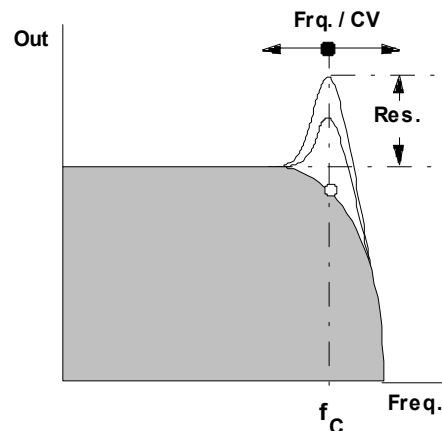

Fig. 1: Frequency response of the A-103
With this control you adjust the **Cut-Off Frequency** f_c , above which the filter attenuates all frequencies. At 10, the filter is fully open. The more you turn down this control, the more the high frequencies are filtered. The sound becomes mellower and less bright (see Fig. 1) until at 0 the filter is completely shut, and there will be no output signal at all.
② CV 2 • ③ CV 3
For voltage control or modulation of the cut-off frequency, use these CV inputs ② and/or ③ (see Fig. 1). Use attenuators ② and/or ③ to adjust the **control voltage level**.
④ Lev.